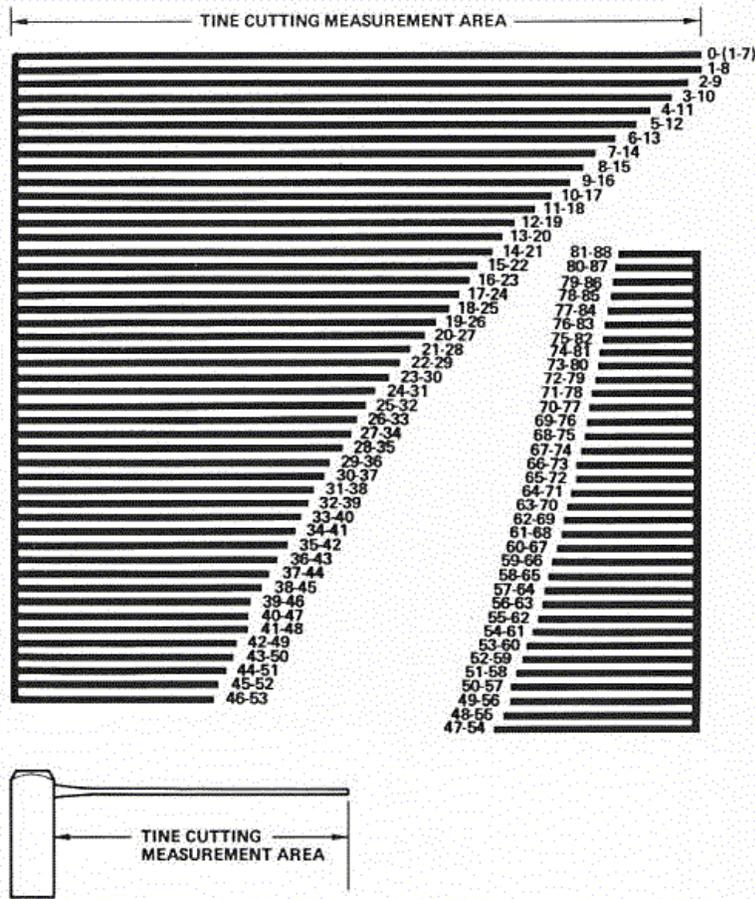

Figure 6-2. Tine Cutting Measurement Chart
4. Consult the cutting chart (Figure 6-2) in the Tone Generator Assembly Replacement Kit and cut the Tine to length with a pair of sharp side cutters.